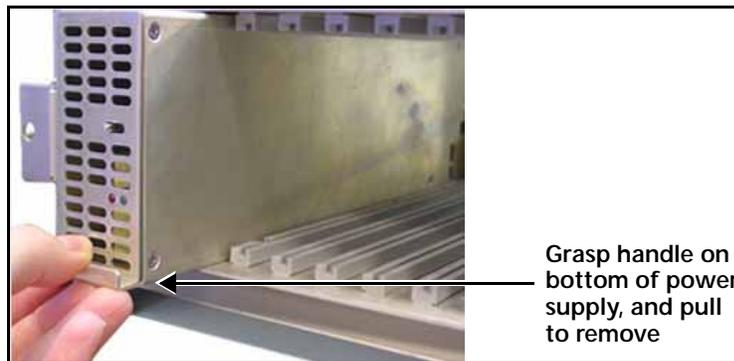

Figure 5-2 Removing a Power Supply
- 5 Grasp the handle on the front of the power supply, and then pull it out of the frame. See Figure 5-2 on page 78.